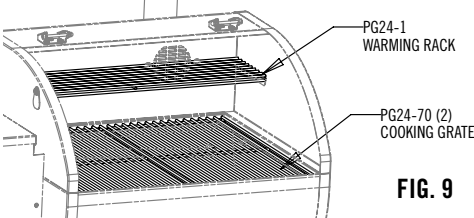

FIG. 9
1. Install the Warming Rack and Cooking Grate as shown in Fig 9.